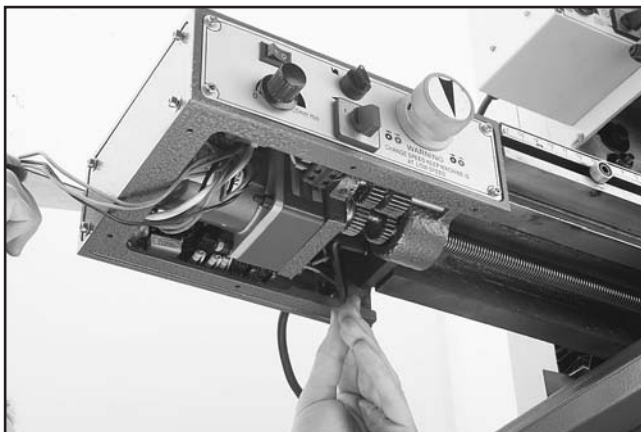

Figure 7. Securing power feed to table.
7. Secure the power feed to the table with (2) M6-1 x 10 cap screws, as shown in **Figure 7**.